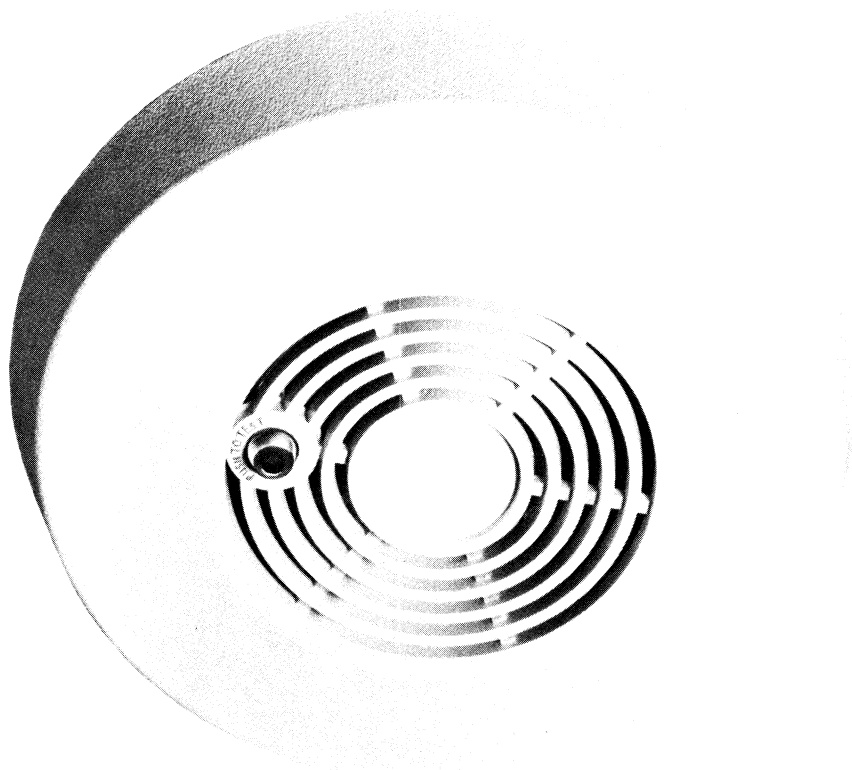

Fig. 11-1. Combustion (smoke) detector (courtesy of ADEMCO).
**ADEMCO Model 580DR.** Smoke detector (pictured in Fig. 11-1) with relay and alarm horn (power supply-9 volt battery). Can be used on both normally open or normally closed circuits.